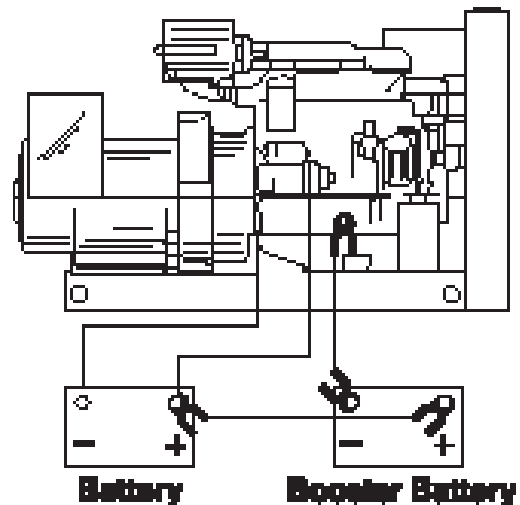

Figure 10: Booster Battery Connections
3. First, connect the positive (+) terminal of the booster battery to the positive (+) terminal of the main battery. Then, connect the negative (-) terminal of the booster battery to ground on the engine block (Figure 10).